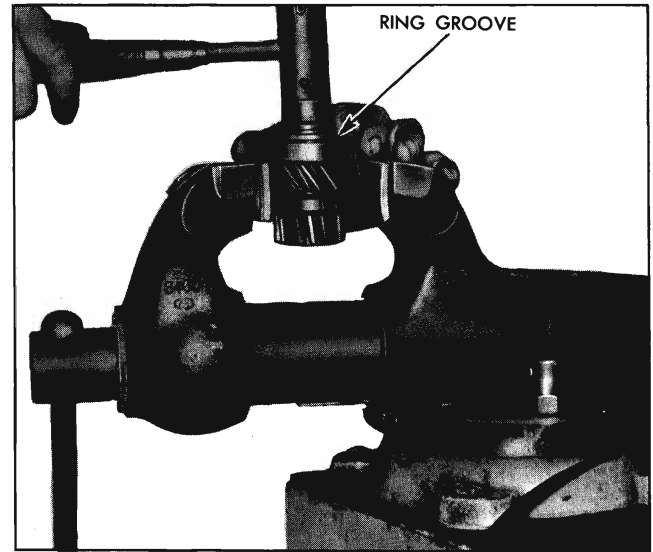

Fig. 7-38 Removing Clutch Gear Bearing
3. Place outer race of bearing on top of vise, and tap out clutch gear with a soft hammer (Fig. 7-38).
Installation of new bearing can be accomplished by tapping or pressing new bearing onto clutch gear with a suitable tool (such as J-6133) used on the bearing inner race. Ring groove should be away from gear (Fig. 7-38).